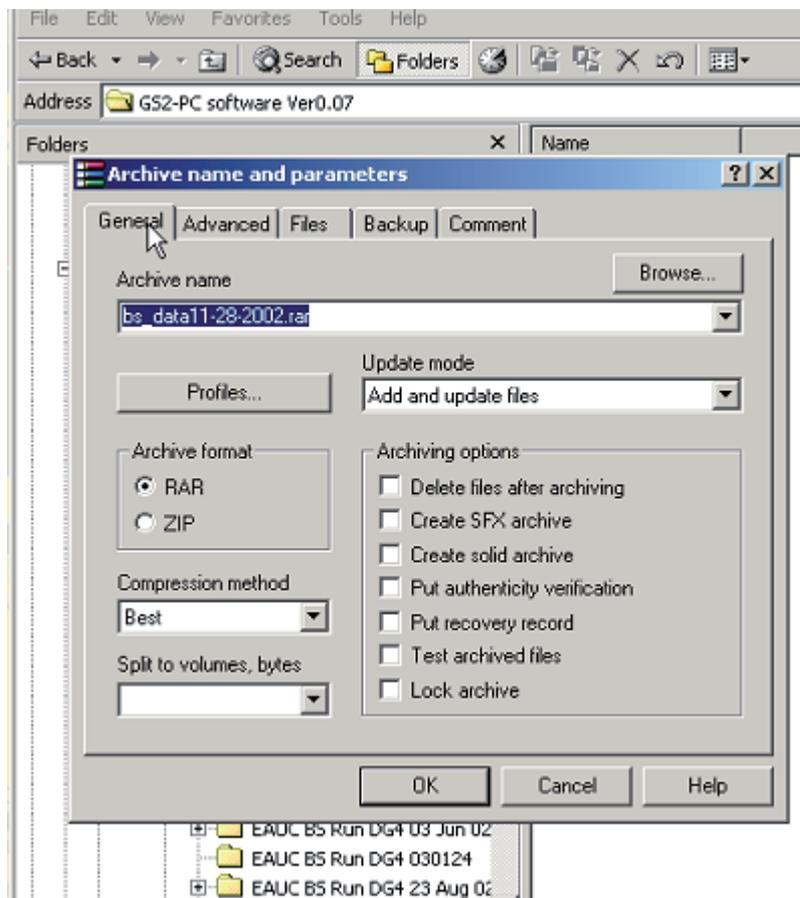

Fig 3.7.
- 3) Click “OK” (refer to Fig 3.7.) and the data file *.log will be automatically compressed and a new file *.rar with the same prefix-file name will be created.